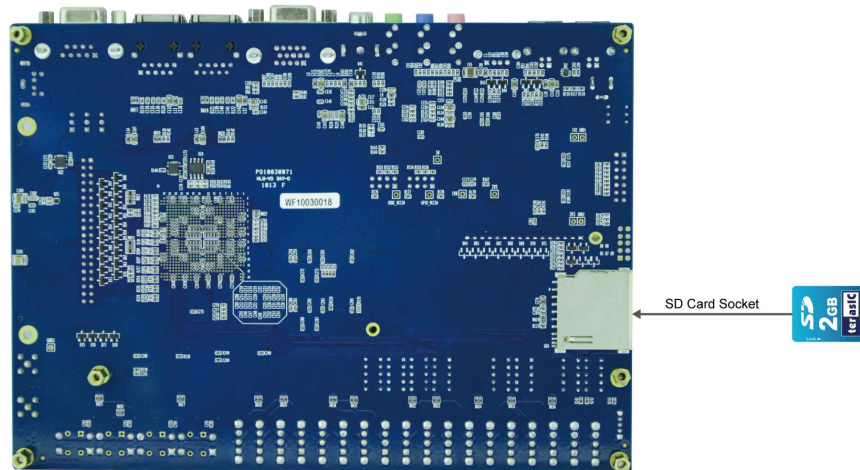

Figure 6-11 Insert SD Card for the SD Card Demonstration
- Insert the SD Card into the SD Card socket of DE2-115, as shown in Figure 6-11.